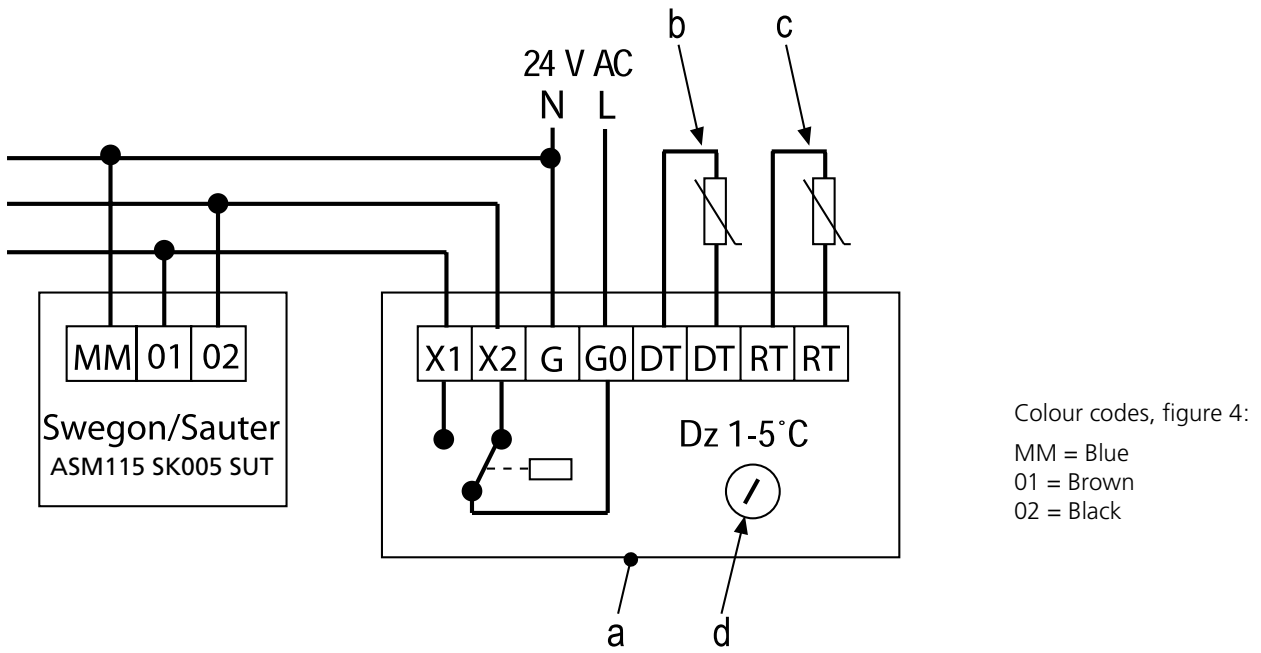

Figure 4. Connecting to supply air diffuser with Swegon actuator, normally mounted on BOC.
- Connections are made according to wiring diagram, Figures 4 and 5.
Key to the wiring diagrams, Figures 4 and 5: